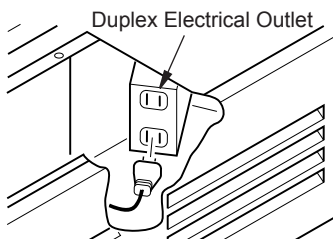

Figure 12 - Accessing Duplex Electrical Outlet Installed in Bottom Right Side of Firebox
⚠ WARNING: If there is a duplex electrical outlet installed in the right side of the bottom of the fireplace base area (see Figure 12), be sure that the electrical power to the outlet is turned off before proceeding with blower installation. Failure to do this may result in serious injury.
- Plug in blower power cord to duplex outlet (see Figure 12, page 14).